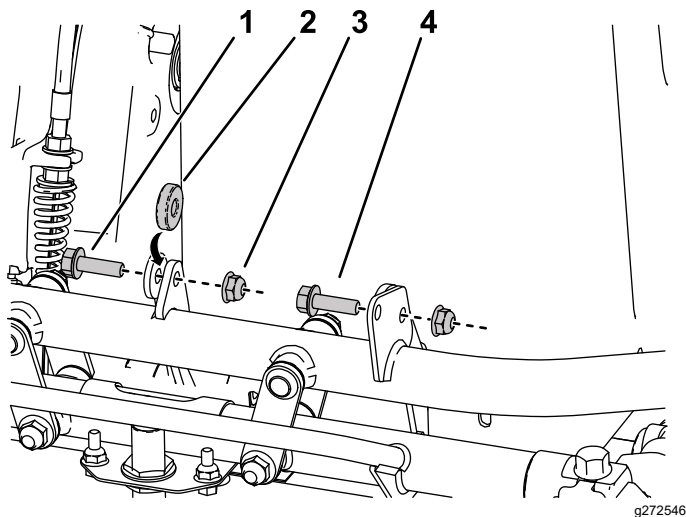

Figure 10
1. Align the front of the new battery platform onto the frame and install the hardware as shown in Figure 10.